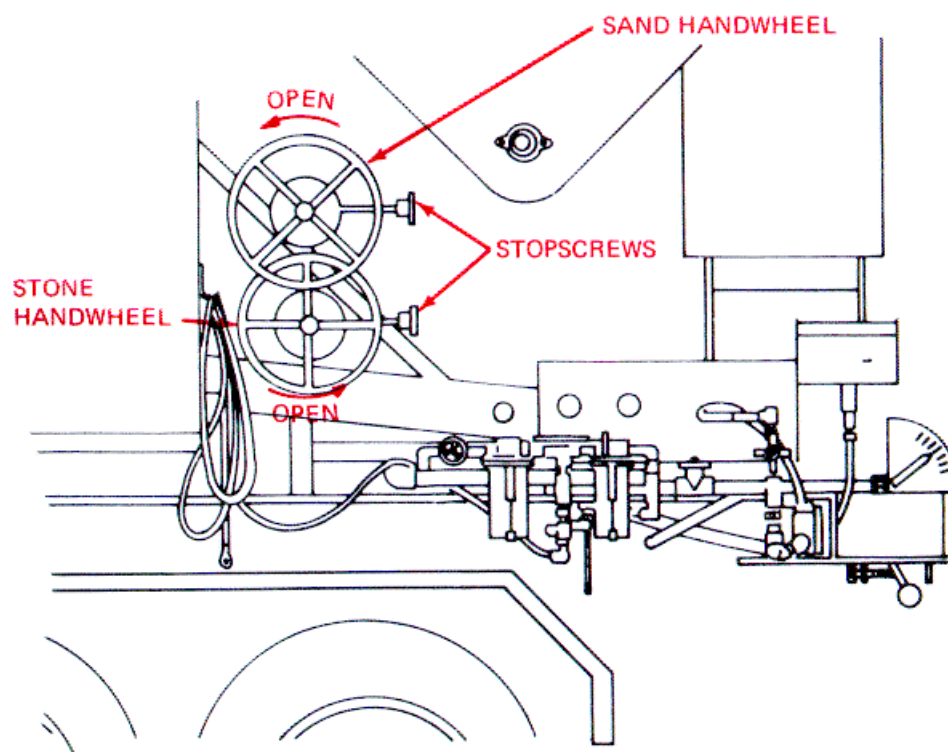

Figure 3-16. Sand and Stone Controls.
- (2) Loosen the stopscrews on the sand and stone controls (fig. 3-16). Turn the handwheels clockwise as far as they will go. Tighten the stopscrews.
- (7) Loosen the stopscrews (fig. 3-16). Close the aggregates gates by turning the handwheels to the left.